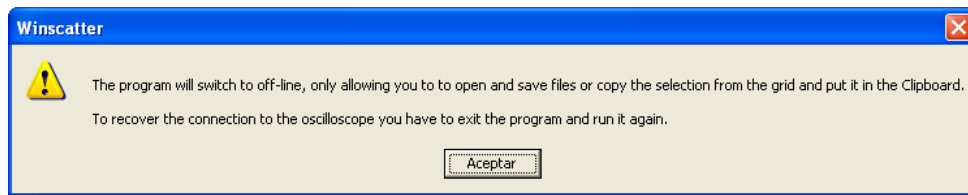

Figure 3.15: Off-line warning window.
2. Selecting the option “Off-line” through the *Mathematical operations* menu (see subsection 3.4.3 on page 21). If you do this, the window shown in Fig. 3.15 will pop up.